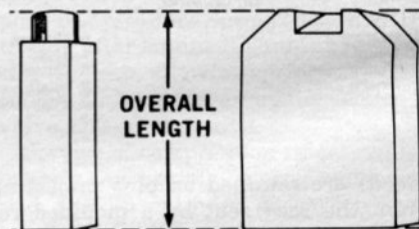

Fig. HL111—Measure length of brushes as shown.
BRUSHES. To remove brushes, unscrew clamp screws and slide brush cover (20—Fig. HL 110) off brush head (18). Unscrew set screws and remove brush caps (24) and brushes (26). Be sure to mark brushes so that they can be returned to their original positions. Check length of each brush as shown in Fig. HL111. Renew brush if length is $\frac{1}{8}$ inch or shorter. Be sure to include length of projections for brush springs when measuring brush length.